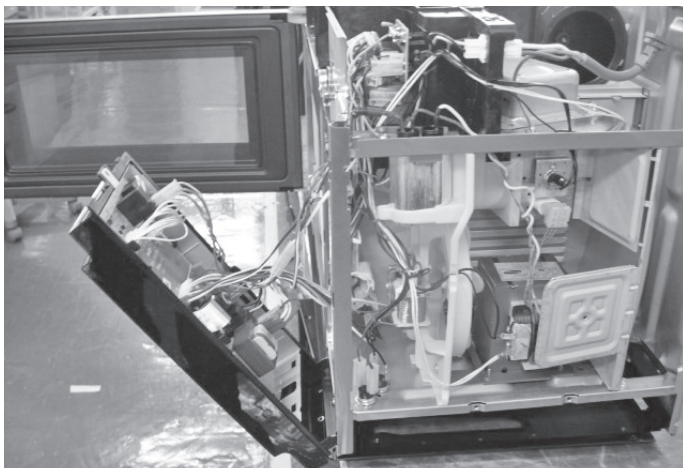

Figure 4-25. Control Box Removal
4. Disconnect the connectors from the control circuit board. (See Figure 4-25)